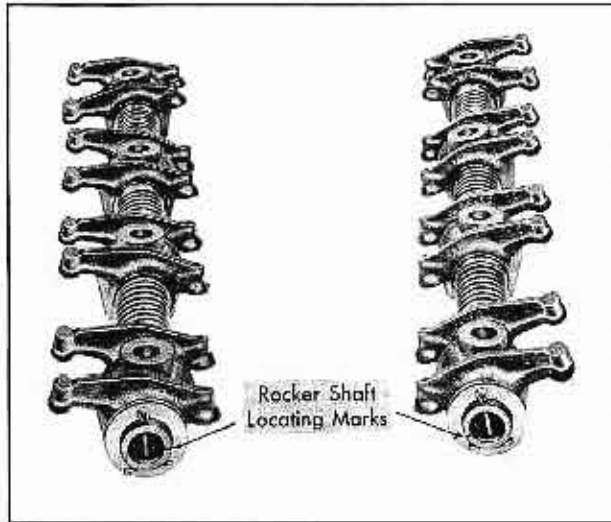

Fig. 10-10 Rocker Arm Locating Marks
9. Install rocker arm assembly in position on cylinder head with notches on each end of rocker arm shaft pointing downward and toward center of engine, Fig. 10-10, and rocker arm brackets with larger machined surface next to head.